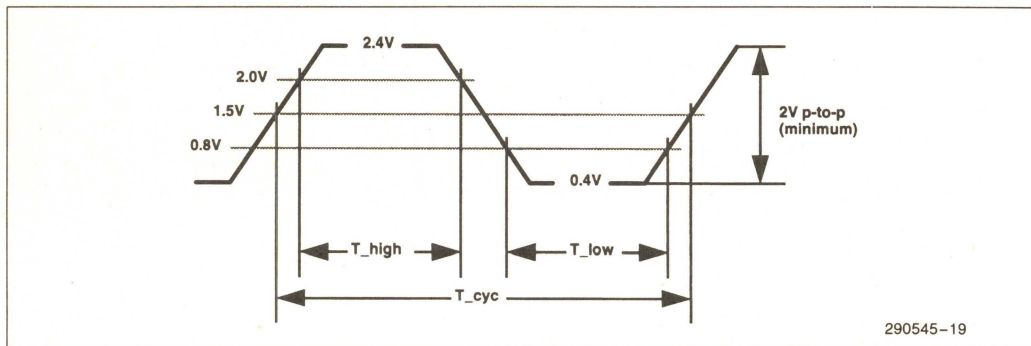

Figure 21. Clock Waveform
The 82557 uses the PCI clock. Figure 21 shows the clock waveform and required measurement points for the PCI clock signal. Table 13 summarizes the PCI clock specifications. This clock waveform should be treated as minimum requirement of the 82557.
2. Rise and fall times are specified in terms of the edge rate measured in V/ns. This slew rate should be met across the minimum peak-to-peak portion of the clock waveform as shown in Figure 21.